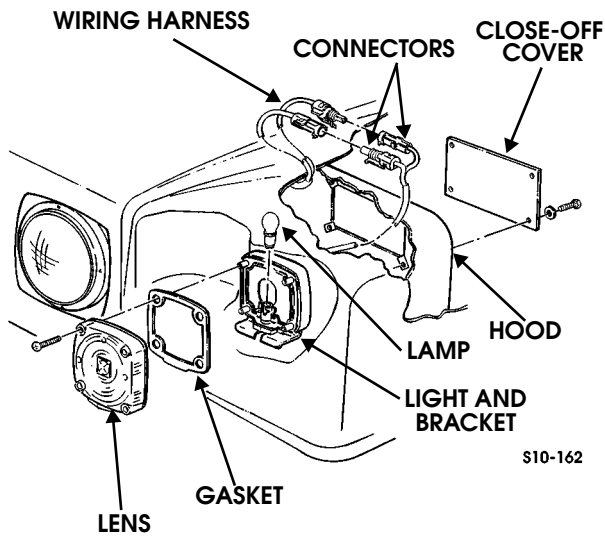

Figure 10-164: Front Turn Signal Assembly Breakdown
1. Remove four screws, lens, and gasket from turn signal light (Figure 10-164).
3. Connect two connectors to wiring harness (Figure 10-164).